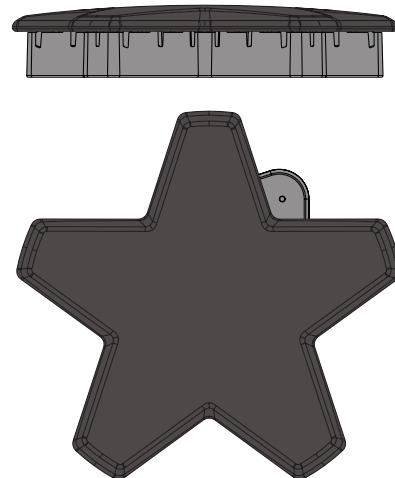

Figure 10 : Correct Burner Cap Placement
- Check each burner to make sure there is no gap between the burner cap and burner base. *See Figures 10 and 11: Correct and Incorrect Burner Cap Placement to see examples of correct and incorrect placements of the burner cap.*
- You may gently try to move the burner caps from side to side to check if the caps are properly placed on the burner bases. When properly placed, each burner cap will rest flat on top of its burner base, and completely cover the star-shape of the burner base when viewed from the top as shown in *Figure 10: Correct Burner Cap Placement.*